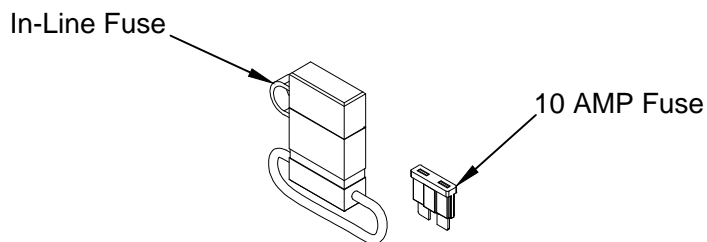

Figure 5: In-Line Fuse.
7. **Insert** the provided 10 AMP fuse in the In-Line Fuse (Figure 5).